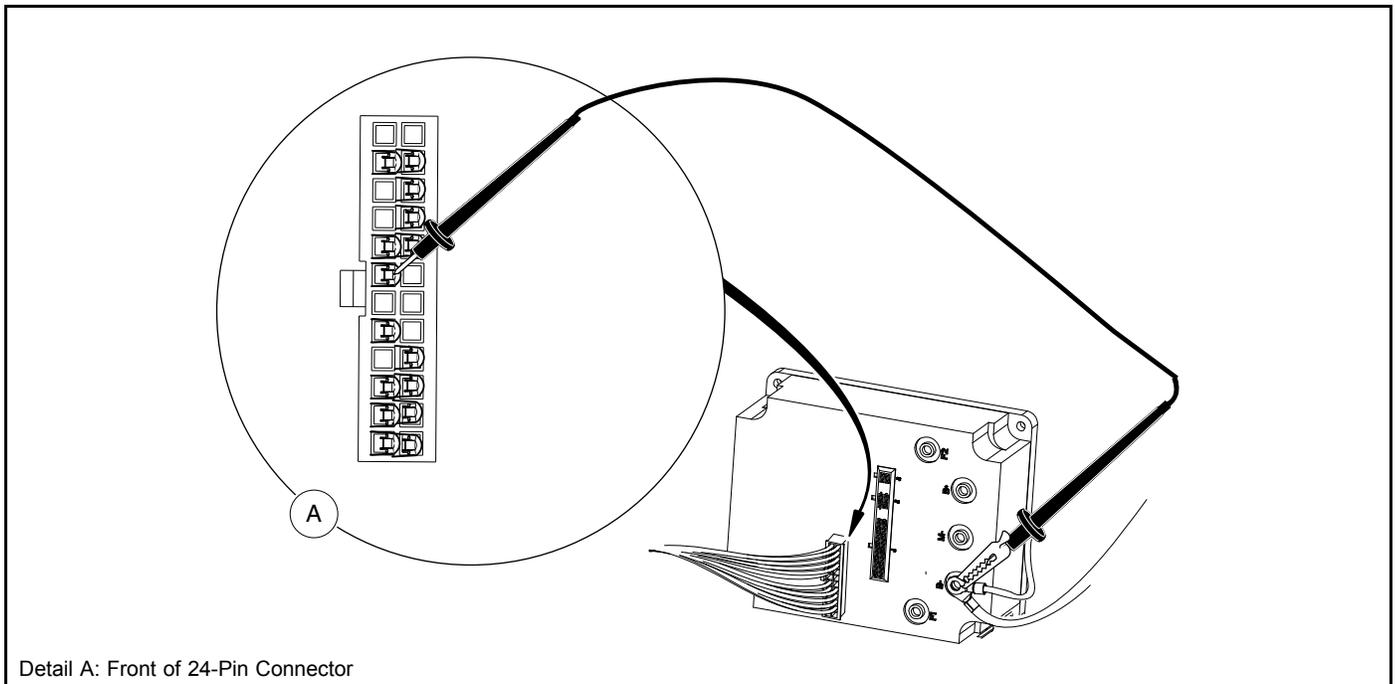

Figure 22-15 Test: Pin 19 (Orange/White Wire)
4. Place a jumper wire with an alligator clip between the B– terminal of the speed controller (use alligator clip for this connection) and pin 19 (orange/white wire) of the 24-pin connector (**Figure 22-15, Page 22-25**). **See following CAUTION.**